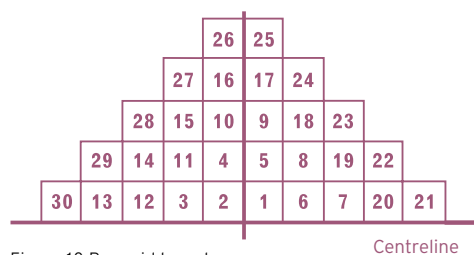

Figure 10 Pyramid layout
Construction of a pyramid should always start at the centre of the baseline, working in the same sequence as shown in Figure 10
- Lay the first pyramid of tiles from the centrelines, using the sequence shown in figure 10. Ensure a close bond is maintained at all times.